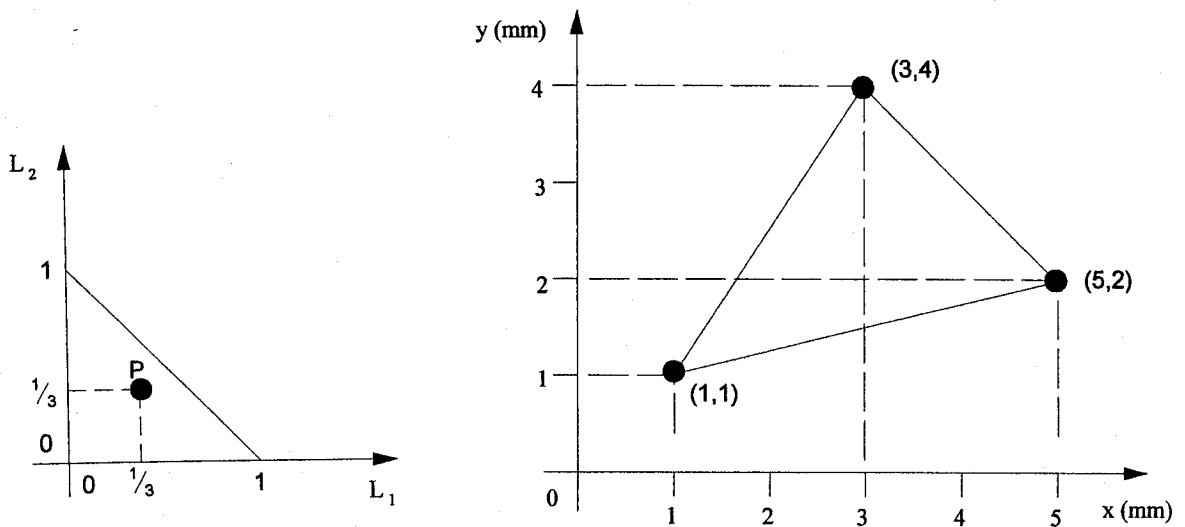

Figure 5
5(a) Locate the point $P(x,y)$ in the mapped domain corresponding to $P(L_1, L_2) = (1/3, 1/3)$ as shown in the parent domain for the simple linear triangular element shown in Figure 5. (8)